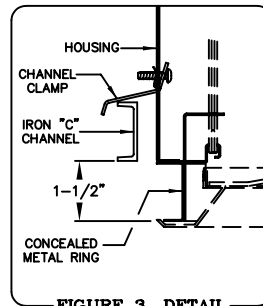

FIGURE 3. DETAIL
2. RAISE SQUARE HOUSING UPWARD INTO ROUGHED IN OPENING. FROM HOUSING INTERIOR, INSERT CHANNEL CLAMP THROUGH FOUR LOWER HORIZONTAL SLOTS. CLAMP MUST SIT ON TOP OF "C" CHANNEL. DISTANCE BETWEEN BOTTOM OF "C" CHANNEL AND BOTTOM OF CONCEALED METAL RING SHOULD BE 1-1/2". TIGHTEN CHANNEL CLAMP IF FINAL LEVELING ADJUSTMENT IS REQUIRED. (SEE FIGURE 3 DETAIL.)